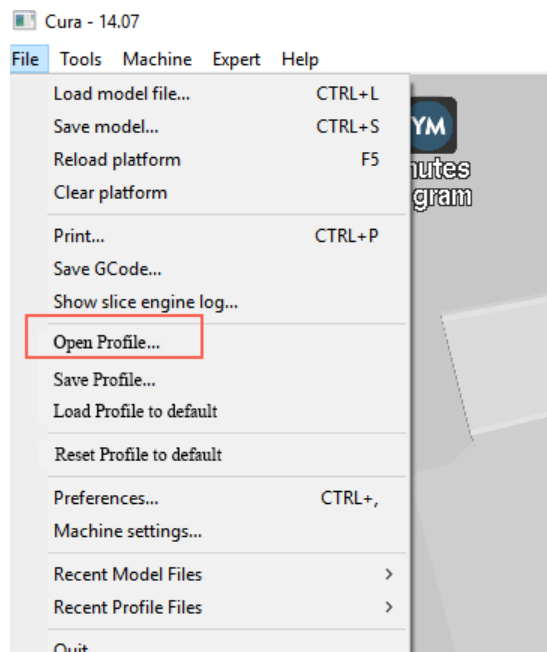

Figure 6.22 Import slice parameters
4. Set slice parameters, and select **File > Open Profile** to import these parameters, as shown in Figure 6.22.